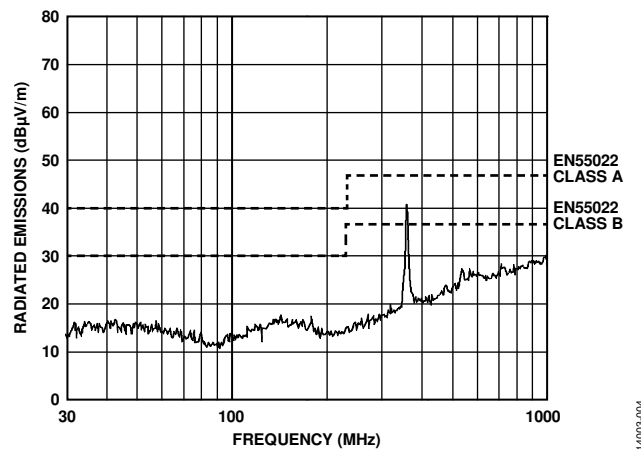

Figure 4. Horizontal Scan from 30 MHz to 1000 MHz (Corresponds to Worst Case for Table 3)
The EVAL-ADM2582EEMIZ and EVAL-ADM2587EEMIZ evaluation boards are configured and tested with 3.3 V V_{CC} or 5.0 V V_{CC} power supplied to the ADM2582E and ADM2587E devices, with the power supplied from the ADP667ARZ regulator output to V_{CC} (Pin 8). The ADP667ARZ regulator input is supplied from a standard 9 V battery. All EN55022 radiated emissions testing is performed with 9 V batteries. Testing is performed at 500 kbps clock (ADM2587E) or 16 Mbps clock (ADM2582E), with the clock supplied by the on-board oscillator. The ADM2587E/ADM2582E transceiver is connected in full-duplex mode and the bus pins are loaded with a 54 Ω termination resistor (maximum bus loading). Measurements are carried out in an anechoic chamber at 10 m from 30 MHz to 2 GHz. Figure 4 to Figure 9 show the results of the worst case horizontal scans and Table 3 to Table 8 show the tabulated quasi-peak (QP) results.